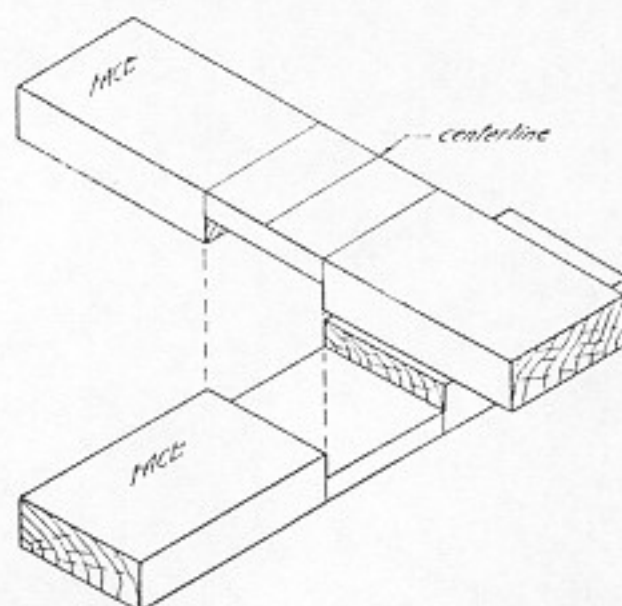

Fig. 208. Cross-lap joint.
6. The pieces are then fitted together (Fig. 208). If they are too tight, they must not be forced together nor may material be chiseled off the shoulders, but a thin shaving should be planed off their edges.